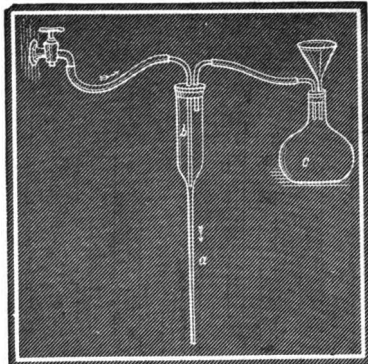

Fig. 51.
In small schools this should be a volunteer class and the work extra, put in after school hours or on Saturdays. Be sure you want to do the work before you undertake it. Don't talk to others while at work, except in rare instances so far as quietly to obtain information. Don't "fool" in the laboratory and report those who insist upon doing it, that they may be promptly removed from the class. Have no false honor about this, for the nonsense of one may vitiate all *accurate* work for a class.—Reserve a portion of the original solution to begin upon again in case of accident, also for special tests.—Common drinking water, boiled, cooled, and filtered, usually answers for all work with the first two Groups; but distilled water must be used for the other Groups, and is better for all reagents.—Precipitate *thoroughly* each Group, but on the other hand avoid much *excess* of the precipitating reagent.—Evaporate filtrates if they become too dilute. A coal-oil stove makes a cheap source of heat for evaporation.—Avoid breathing, to any great extent, fumes of hot HCl , H_4NHO , HNO_3 , aqua regia, etc. Hold dishes at arms' length while pouring such liquids. Under a gas chimney with flame at base to increase draft, is the proper place to generate noxious fumes; but such work may be easily done upon a shelf by open window with slight outward draft.—Make $(\text{H}_4\text{N})_2\text{S}$ by passing H_2S into dilute H_4NHO (10%) till saturated and then add equal volume of H_4NHO . Digest this with a little S and filter to make $(\text{H}_4\text{N})_2\text{S}_2$ (yellow), or expose $(\text{H}_4\text{N})_2\text{S}$ to air for sufficient time.—A convenient H_2S generator is shown in FRONTSPIECE (2). The middle bulb contains Fe S. A test-tube with small hole in bottom (containing a little broken glass upon which is Fe S), lowered into wide-mouthed bottle of dilute H_2SO_4 and test-tube closed by perforated rubber stopple through which is glass tube connected with rubber tube held by spring, Fig. 46, makes a cheap H_2S apparatus.—Fig. 50 shows a convenient reagent bottle with pipetted stopple. Take test-tube to bottle to add reagent, not bottle to test-tube, and be careful not to stir up any sediment which may have fallen in case drinking water has been used.—Fig. 51 represents a system of *rapid filtration*. The stream of water must be regulated. The longer the tube *a*, the more rapid the filtering. Chamber *b* must be air-tight at top. Pt (foil) funnel-shaped tip must support filter paper at bottom, and the wet edges of filter paper must be pressed firmly against upper part of funnel. A partial vacuum is formed in chamber *b* and flask *c*.—For color of precipitates, additional tests, etc., see EXP. 97 and INDEX, also have a work on *Qualitative Analysis* upon the desk for reference.